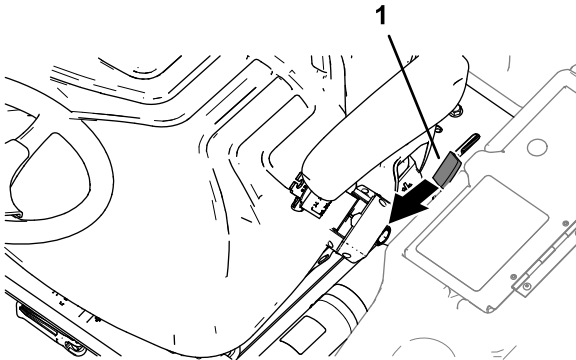

Figure 51
1. Move the platform-latch handle (Figure 51) toward the front of the machine until the latch hooks clear the locking bar.